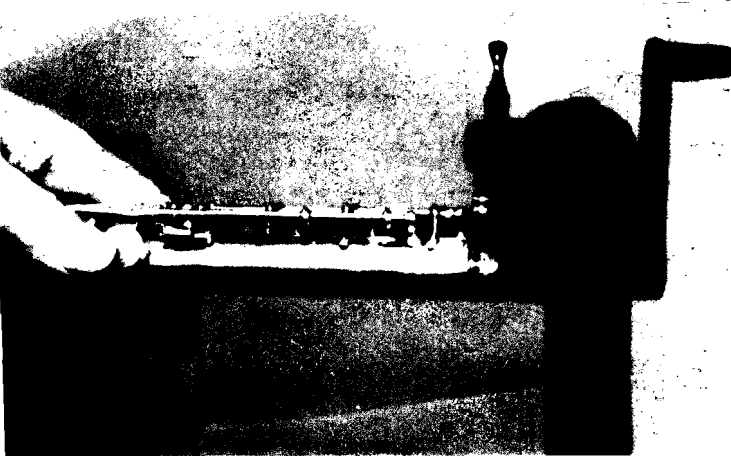

Figure 56
2. Insert the tenon between the two rollers (Figure 56).